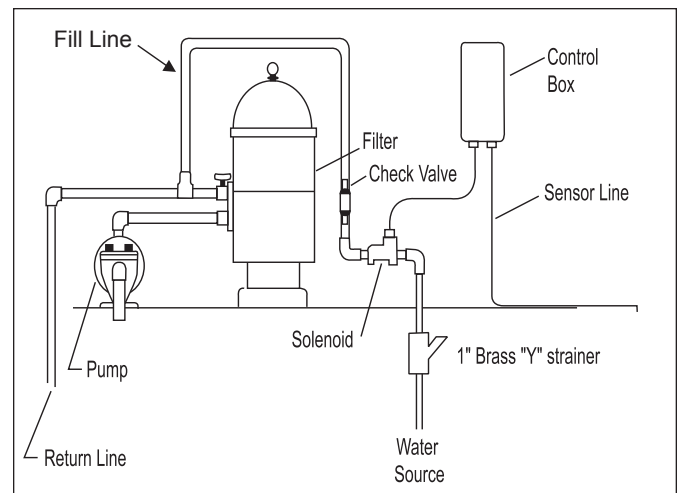
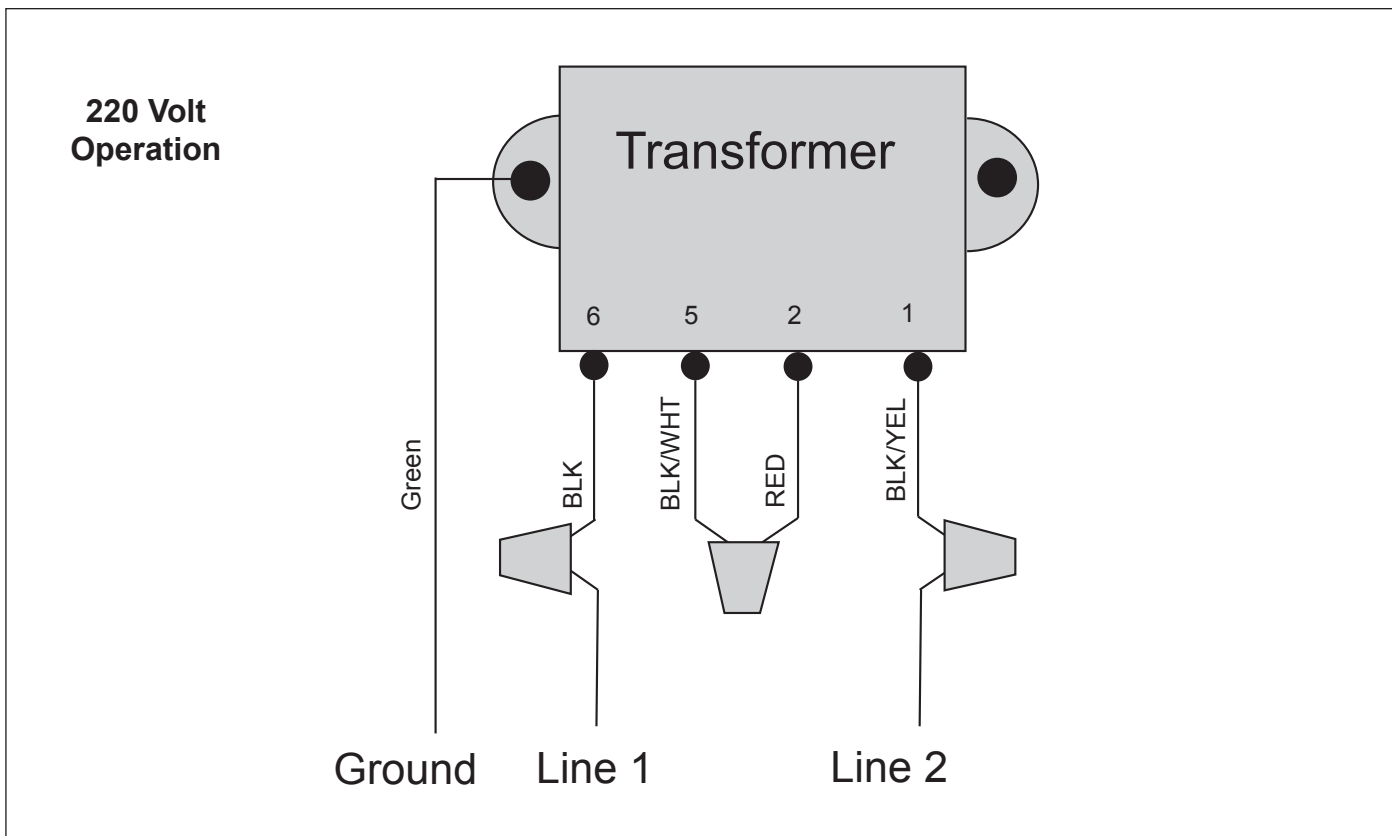
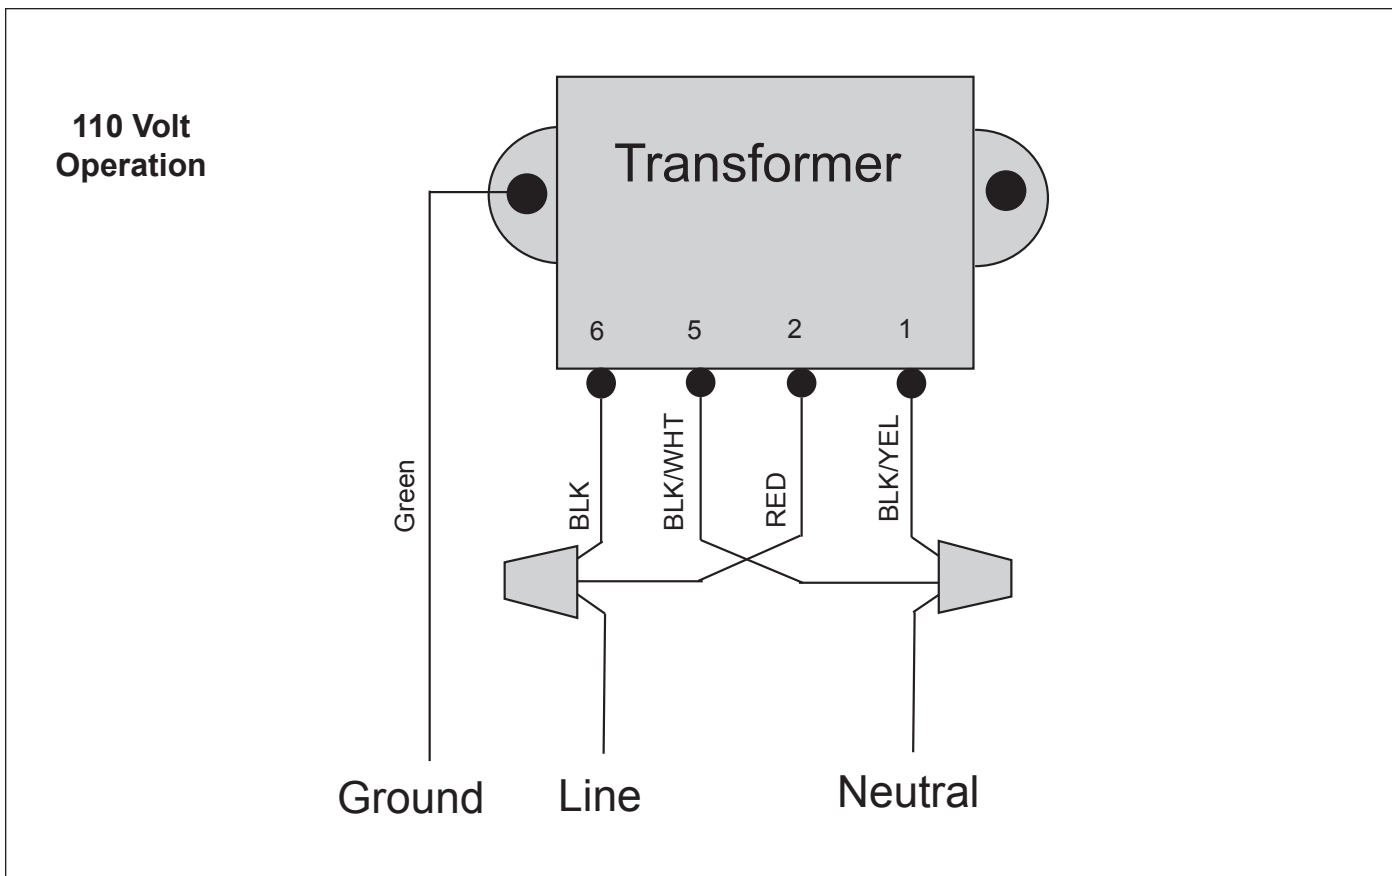

Figure 1. K-1100 or LEV110CK/2G Installation
Figure 4. K-1100, K-2300, and LEV110CK/2G Factory Wiring for 220 Volt Operation
Figure 5. K-1100, K-2300, and LEV110CK/2G Modified Wiring for 110 Volt Operation
Models K-1100, K-2300, and LEV110CK/2G are factory wired for 220 VAC service. If available electrical service is 110 VAC, the power supply wiring must be changed to operate on 110 VAC as shown in figures 4, and 5.
See Figure 4 for factory-direct wiring for 220 volt operation and Figure 5 for modified wiring for 110 volt operation.
1. Mount the control box to the wall near the pump and filter. See Figure 1. **Do not install the control box within 10 ft (3 m) of the pool edges.**
3. Check the source voltage. (All three (3) units are factory wired for 220 volt operation.) To modify the wiring for 110 volt operation, see *Section 3.3*.
4. For 220 volt operation, connect the black wire to line 1 and connect the black wire with the yellow stripe to line 2. See Figure 4.
Refer to Figures 4 and 5 and do the following:
1. Cut the splice cap connecting the black/white and the red wires. See Figure 4.
2. Connect the red wire with the black wire and connect to the line side of power. See Figure 5.
3. Connect the black/white wire with the black/yellow wire and connect to the neutral side of power. See Figure 5.